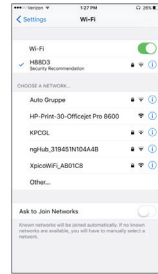

Figure 8: Available WiFi networks
2. Search for available Wi-Fi networks. See Figure 8.